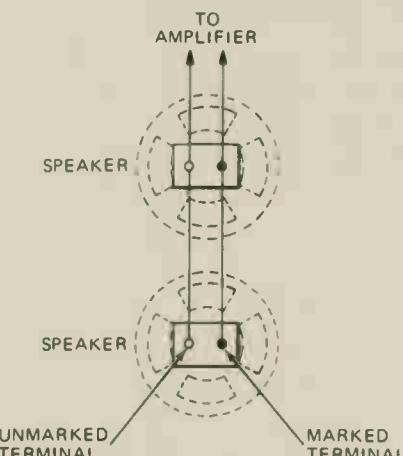
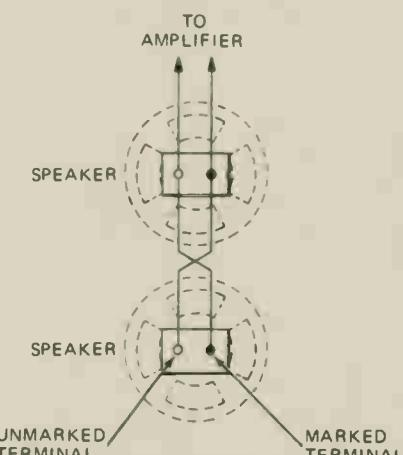

FIG. 5—PA SPEAKERS facing same way are phased with like terminals wired together.
FIG. 6—SPEAKERS FACING EACH OTHER have line transposed for In-phase operation.
7. Connect the marked and unmarked terminals according to the manner of electrical arrangement shown in Fig. 5 if the speakers are facing in the same direction. If the speakers face each other, make connections as shown in Fig. 6.